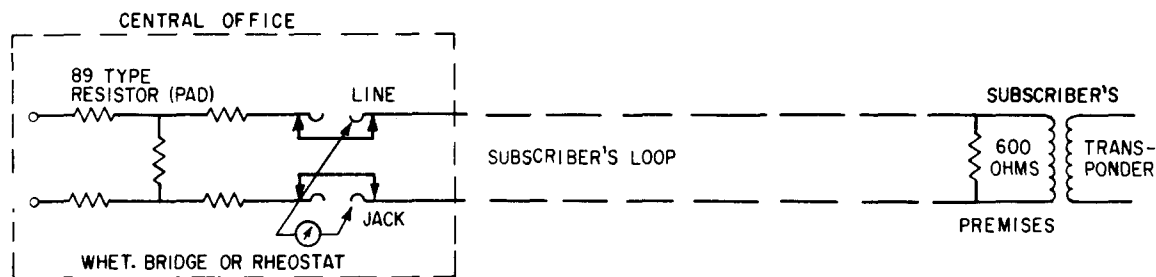

Fig. 1 — Measurement of Loop DC Resistance
3.01 The resistance of each loop should be measured from its LINE jack at the central office with a Wheatstone Bridge or rheostat on the local test desk as shown in Fig. 1. The resistance should include the 600-ohm termination placed by the Telephone Company and located at the subscriber's premises. *IF* the transponder is installed by ARB, its resistance of about 540 ohms will be in parallel with the Telephone Company termination and this should not be overlooked. The resulting resistance of each loop measured on the circuit order test should be filed with the circuit order card or sketch for future reference.
- (6) If possible, isolate the trouble to a specific office.
- (7) Monitor the loops at the LINE jacks for excessive noise. If a 2B Set is available, measure the noise at the same jack. The noise should not exceed 35 dba.
- (8) Check the subscriber loop for a ground.
- (9) If all loops are noisy, check central office for recent rearrangements in central office power plant.
- (10) Measure loop resistance as shown in Fig. 1.
- (11) Remove connections to transponder on 11C connector at customer's premises.